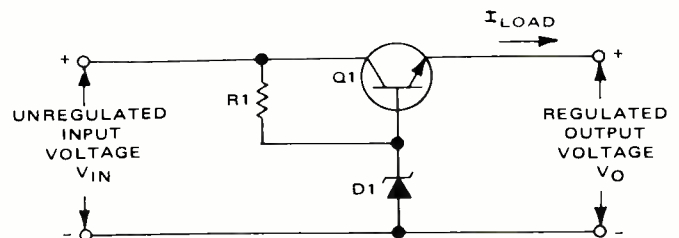

Fig. 1. In this simple series-pass fixed-voltage regulator transistor Q1 controls the regulated output voltage, V_{O} .
Fig. 1. This photo sequence shows what happens when a dart hits a balloon. (A) The balloon is penetrated. (B) The balloon has collapsed. And (C) The dart's still in the air, but the rapidly exploding balloon is already a squiggly pile of rubber.
Two simple series-pass voltage regulators are shown in Figs. 1 and 2. Transistor Q1 in each of these circuits controls the output voltage; thus the collector-emitter voltage rating of Q1 determines the maximum input-to-output voltage. All the current delivered to the load passes through Q1. Therefore, the power dissipated in Q1 is $(V_{in}-V_{out})$ times I_{Load} . If high input voltages and low output voltages and/or large load currents are necessary, it is possible that Q1 will have to dissipate large amounts of power. Obviously, under these conditions the regulator efficiency is low and the power rating (for the particular heat sinking) limits regulating capacity. For limited load variations, Q1 can be shunted by a resistor, thus shifting some power from Q1 to the resistor. The output voltage of the circuit (Fig. 1) is the zener voltage minus the base-emitter voltage of Q1. R1 must provide enough current to the base of Q1 and to D1 to keep the voltage of D1 above its knee at all times. If the temperature characteristic of D1 is equal and opposite that of the base-emitter junction of Q1, the output voltage will remain constant with temperature.
reasons. The first and most important to the commercial user is graphically illustrated in Fig. 1. The original waveform to be transmitted is shown in A. The waveform will suffer some degradation during transmission due to the characteristics of the transmission medium, as shown in B. If transmission must be accomplished over significant distances, the waveform must normally be amplified at periodic intervals. When using analog transmission, linear amplification is required in order to preserve the waveshape. Therefore, any noise or distortion that falls within
Fig. 1. During transmission, waveforms are degraded due to characteristics of the transmission media, but in a digital system, it's relatively easy to restore the original waveshape.